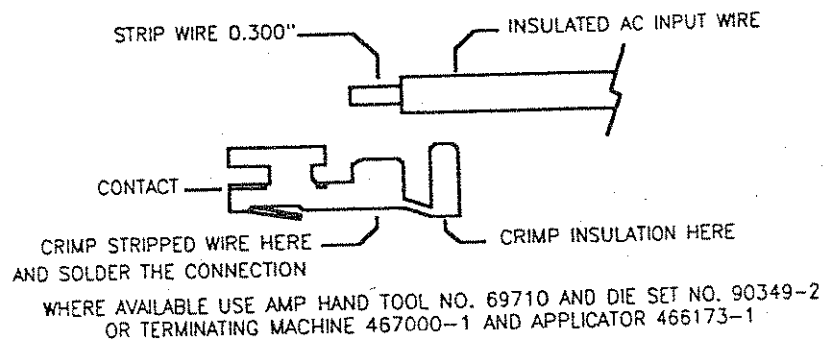

Figure 2.5-2 Wire Preparation
3. Crimp the stripped wire into the contact as indicated in **Figure 2.5-2**, then solder the connection.
4. Crimp the contact around the wire insulation as indicated in **Figure 2.5-2**.